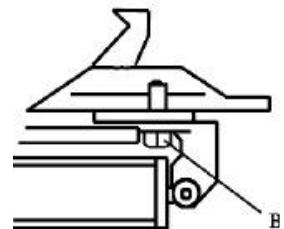

Fig. 15
Note: After the first 20 days of use, retighten the jaws with tightening screws (B) on the turntable (fig 15).